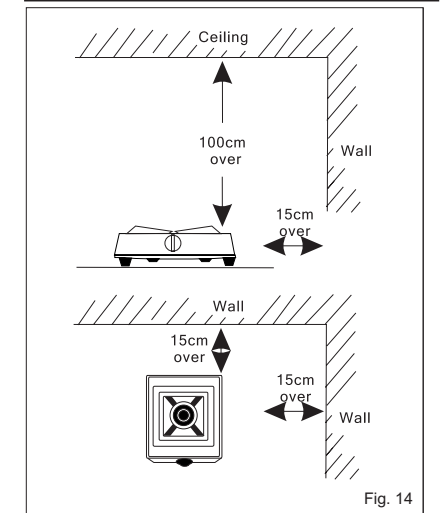

Fig. 14
- When choosing a place to put the gas cooker, be sure to pick a spot that is firm and level. The gas cooker need plenty of space and air. Allow at least 15cm of space on the sides and 100cm above the unit (Fig. 14). If the space is less than 15cm from the in-flammable walls, be sure to provide a heat insulation board. Also be sure to keep paper, oil and all other inflammable objects away from the gas cooker.